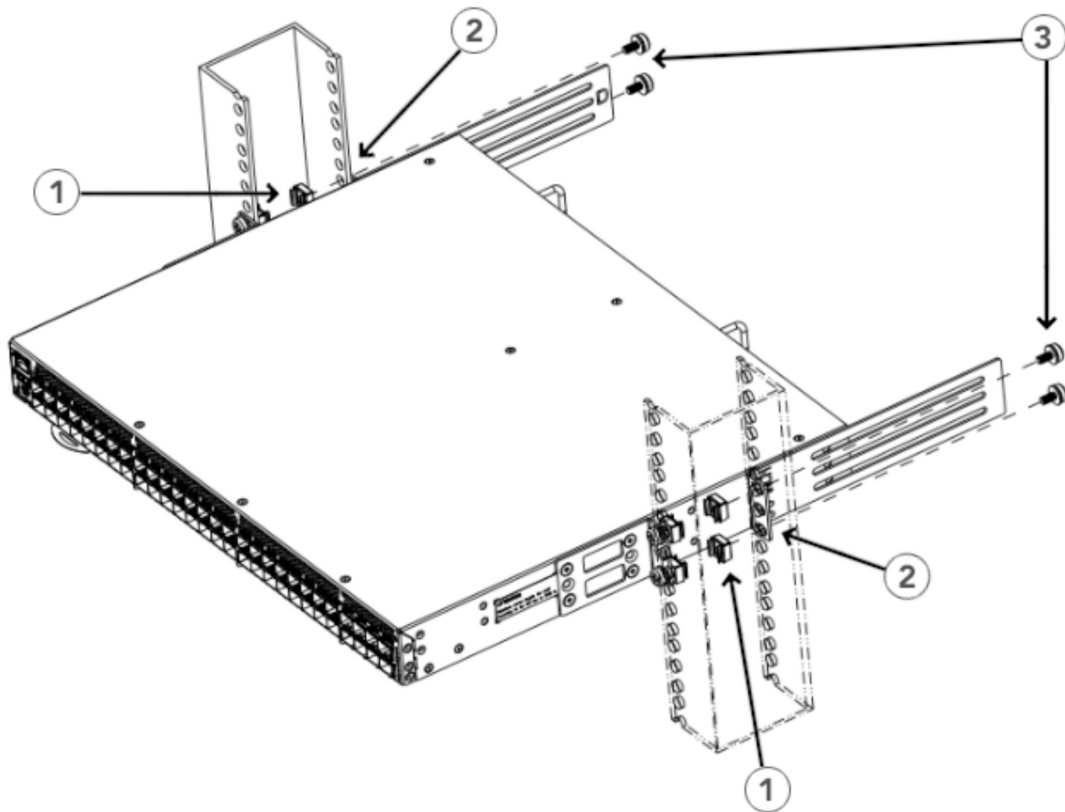

Figure 22. Attaching the Rear Brackets to the Rack
1. Select the proper length bracket for your post width. If your posts are 3 in. to 5 in. wide, use the brackets marked 3-5 INCH. If your posts are 5 in. to 6 in. wide, use the brackets marked 5-6 INCH as shown in Figure 22.
2. Position the right rear bracket in the right rear of the device, as shown in Figure 22. Whether you are using the 3-5 INCH or the 5-6 INCH bracket, the rear end of the bracket will be flush with the back of the device.